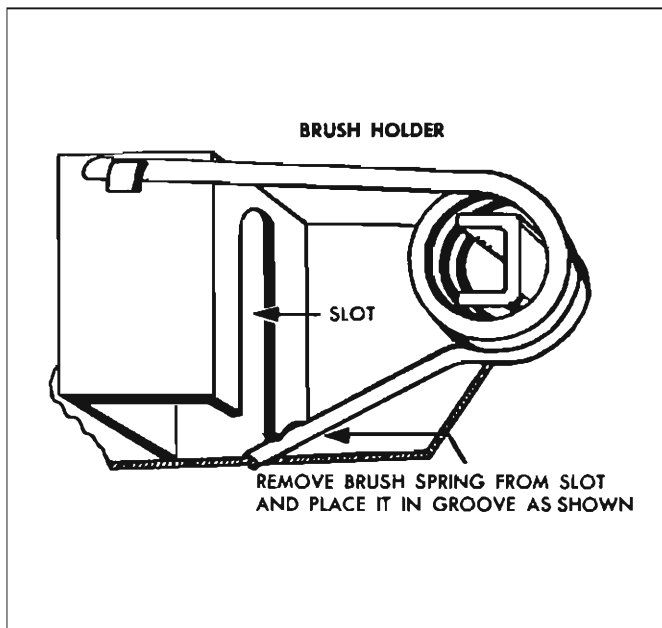
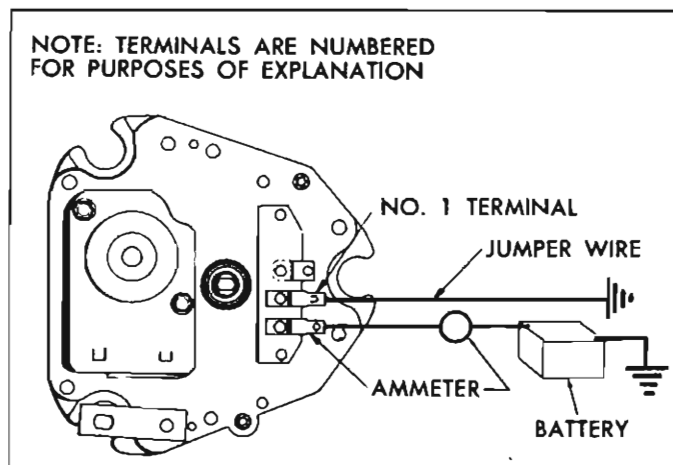

Fig. 8-18—Releasing Brush Spring Tension
Fig. 8-25—Checking Single Speed Wiper Circuit
2. Release brush spring tension (fig. 8-18), slide
2. If everything checks out in Step 1 and wiper fails to operate, disconnect wiring harness from wiper and check for 12 volts at harness terminal that connects to wiper terminal No. 2, Figure 8-25. No voltage indicates defective car wiring.	—Current Draw—2-3 amps <ol style="list-style-type: none"> <li>1. Disassemble motor and check for the following items:               <ol style="list-style-type: none"> <li>a. Open armature.</li> <li>b. Brushes sticking.</li> <li>c. Brush springs improperly positioned (See fig. 8-18).</li> <li>d. Loose or frayed brush pig-tail connections at splice joints.</li> </ol> </li> </ol>